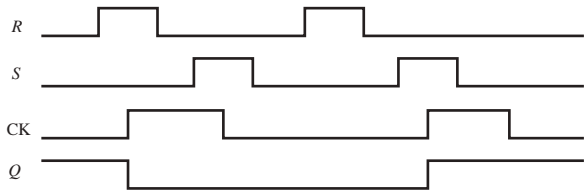

Figure 6.9 Positive-edge-triggered RS flip-flop timing diagram.
The truth table for a positive-edge-triggered RS flip-flop (Figure 6.8a) is given in Table 6.5. The up-arrow $\uparrow$ in the clock (CK) column represents the positive edge transition from 0 to 1. The NA in the second to last row indicates that the input condition for that row is not allowed. As long as there is no positive edge transition, the values of S and R have no effect on the output as shown by the X symbols in the last row of the table. An example timing diagram is shown in Figure 6.9. The output is reset ($Q = 0$) at the first positive edge of the clock signal, where $R = 1$ and $S = 0$, and the output is set ($Q = 1$) at the second positive edge, where $S = 1$ and $R = 0$.